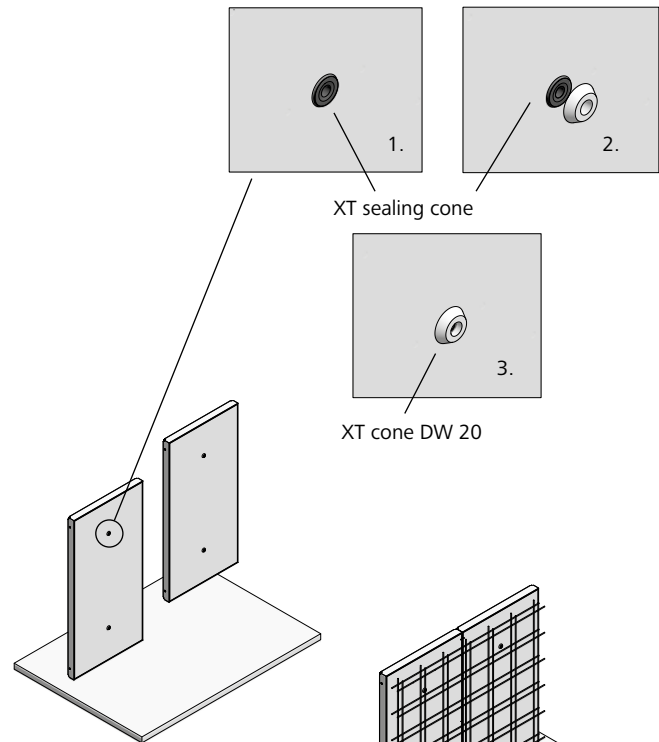
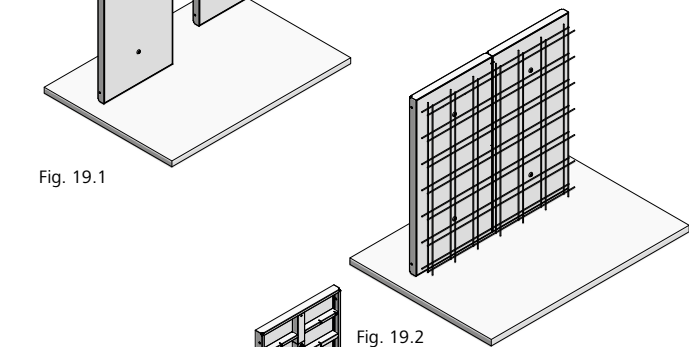

Fig. 19.1
Fig. 19.2
1. Press XT cone DW 20 onto the XT sealing cone on the initial-formwork panel (Fig. 19.1, steps 1 to 3).
2. Place initial-formwork panel (Fig. 19.1 and ST-XT-5), and carry out boxout work (Fig. 19.2).